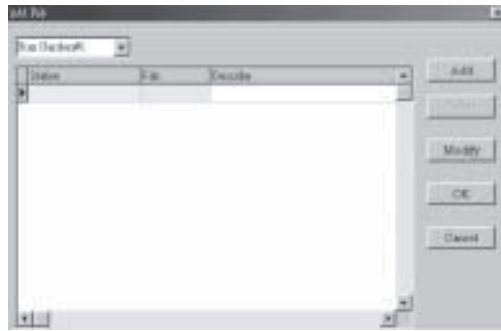

Fig. 4-6 Adding or Modifying FABs Dialogue Frame 1
1. Click 'Add/delete FAB' under 'Monitor' instruction menu, or click the icon  in the toolbars, the dialogue frame as shown in Fig. 4-6 will appear.
2. In the dialogue frame as shown in Fig. 4-6, the Station Name are displayed at the left-up corner. If you click 'Add', you can add a FAB controller in the station. If you click 'Delete', you can delete a FAB controller in the station. If you click 'Modify', you can modify the selected FAB.